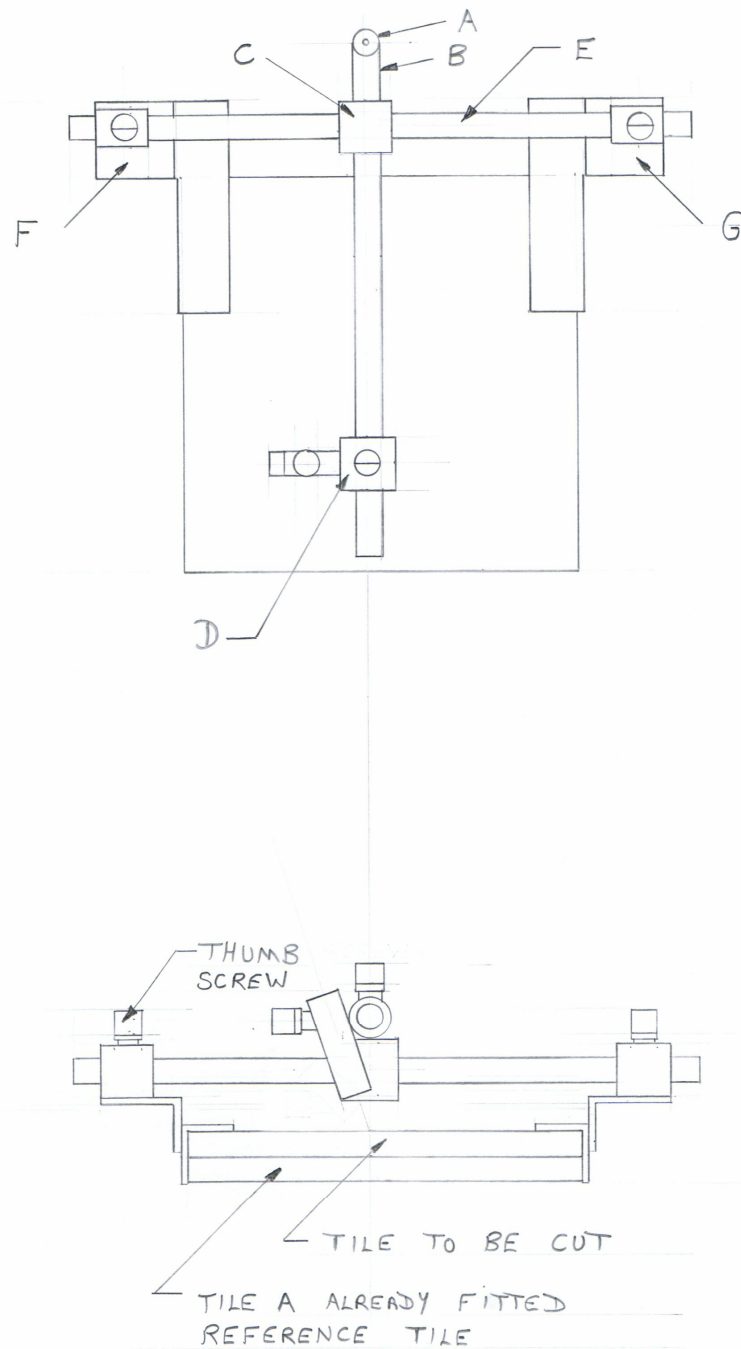
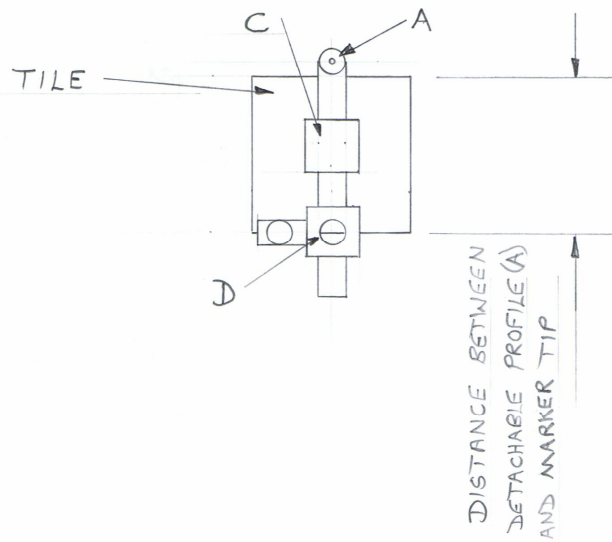
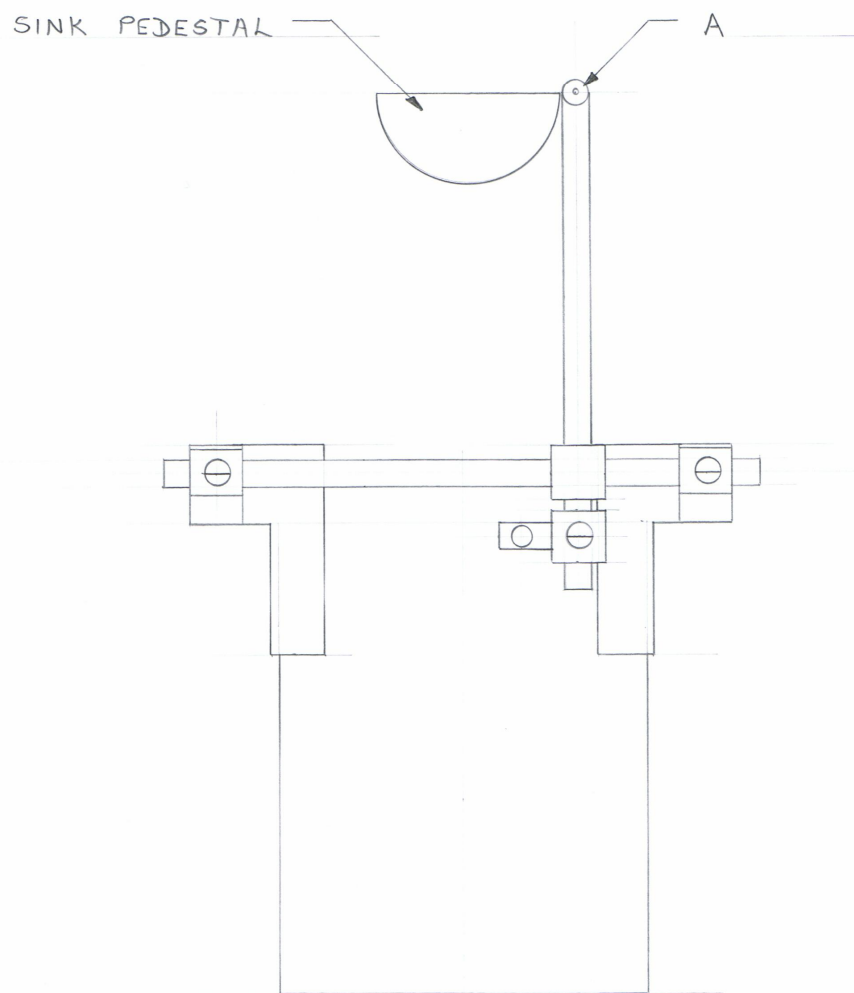

FIGURE 1
FIGURE 3
FIGURE 4
### **Contents – Figure 1**
1. Figure 1, the tiler chooses the correct detachable profiler (A) for the tile spacing currently being used and screws this on to the vertical profile bar (B).
2. The sliding sleeve (C) is then attached to the vertical profile bar (B).
3. The marker is attached to the marker bracket (D).
4. The marker bracket (D) is then attached to the vertical profile bar (B).
5. The tiler then adjusts the length between the detachable profiler (A) and the marker tip as shown in Figure 3.
7. The horizontal profile bar (E) is then attached to the sliding sleeve (C).
8. The end brackets (F) and (G) are then located on the horizontal profile bar (E) and tightened up against the tile using the thumb screws.
9. The tiler then moves the detachable profiler (A) to the extreme position of the sink pedestal as shown in Figure 4, and follows the contour of the shape ensuring the marker is marking the profile on the tile.